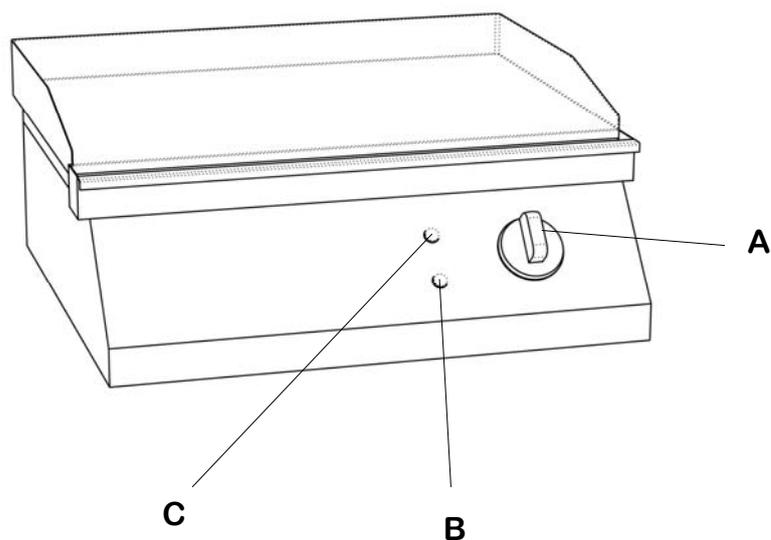

Fig.1
2. Turn the thermostat (A fig.1) until the temperature setting required is reached. The heating light (B fig.1) will come on and will go off when the set teperature is reached. The light (C fig.1) indicates that the appliance is connected to the power supply.
1. Put the thermostat (A fig.2) into position "0", and check that the lights (B fig.2) and (C fig.1) are extinguished.